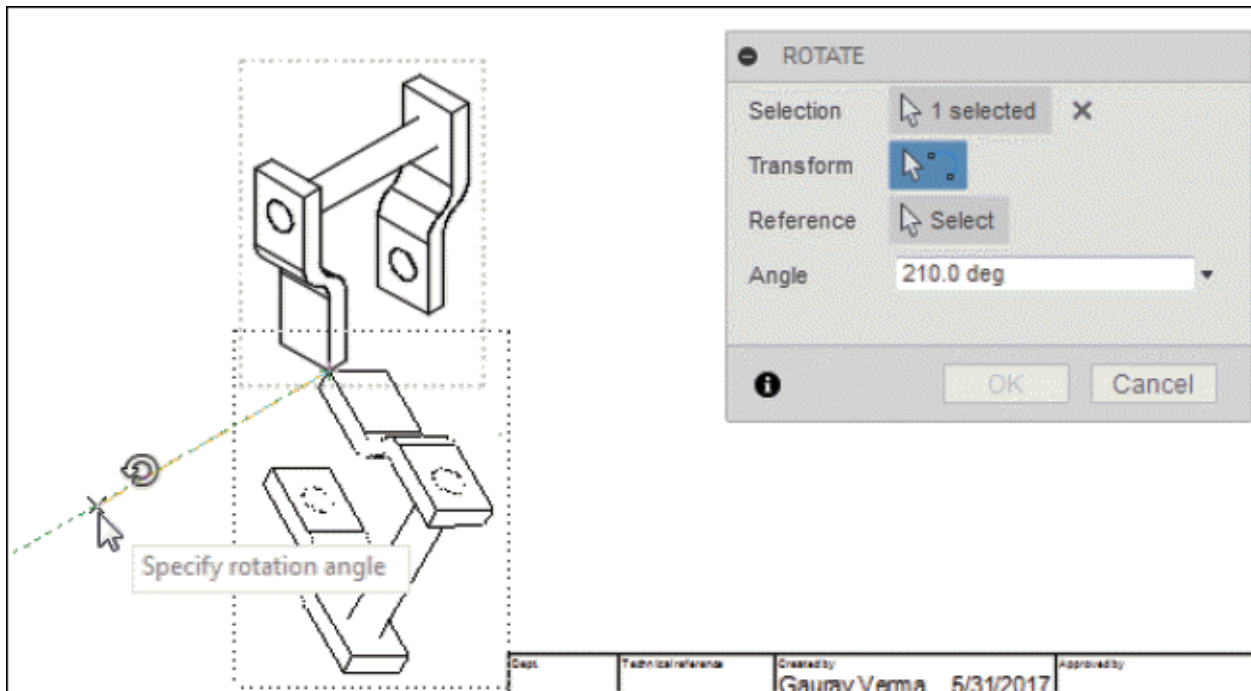

Figure-38. Rotating view
- Click on **Transform** button from **ROTATE** dialog box and select the base point from selected view. The view will be attached to the cursor; refer to Figure-38.